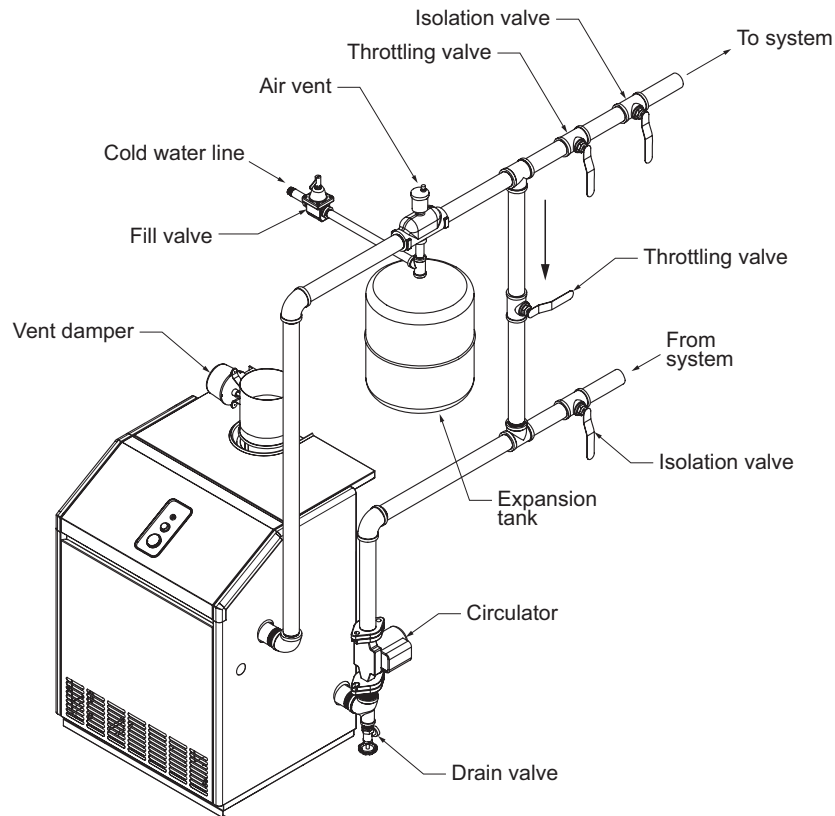

Figure 8.5 (Boiler bypass piping)
- 9) Drain Valve - The drain valve is shipped in the boiler parts bag. Install it in the tee under the circulator as shown in Figure 8.5.
- 3) Large Water Volume Systems - The piping shown in Figure 8.5 will minimize the amount of time that the boiler operates with return temperatures below 120°F on these systems. A bypass is installed as shown to divert some supply water directly into the return water. The bypass pipe should be the same size as the supply. The two throttling valves shown are adjusted so that the return temperature rises above 120°F during the first few minutes of operation. A three-way valve can be substituted for the two throttling valves shown. If the circulator is mounted on the supply, the bypass must be on the discharge side of the circulator.